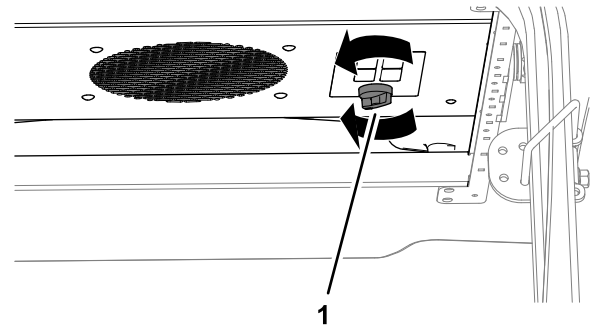

Figure 15
- To run the cooling fan, rotate the knob for the fan switch clockwise to the LOW, MEDIUM, or HIGH fan-speed position (Figure 15).
- To shut off the cooling fan, fully rotate the knob counterclockwise to the OFF position (Figure 15).